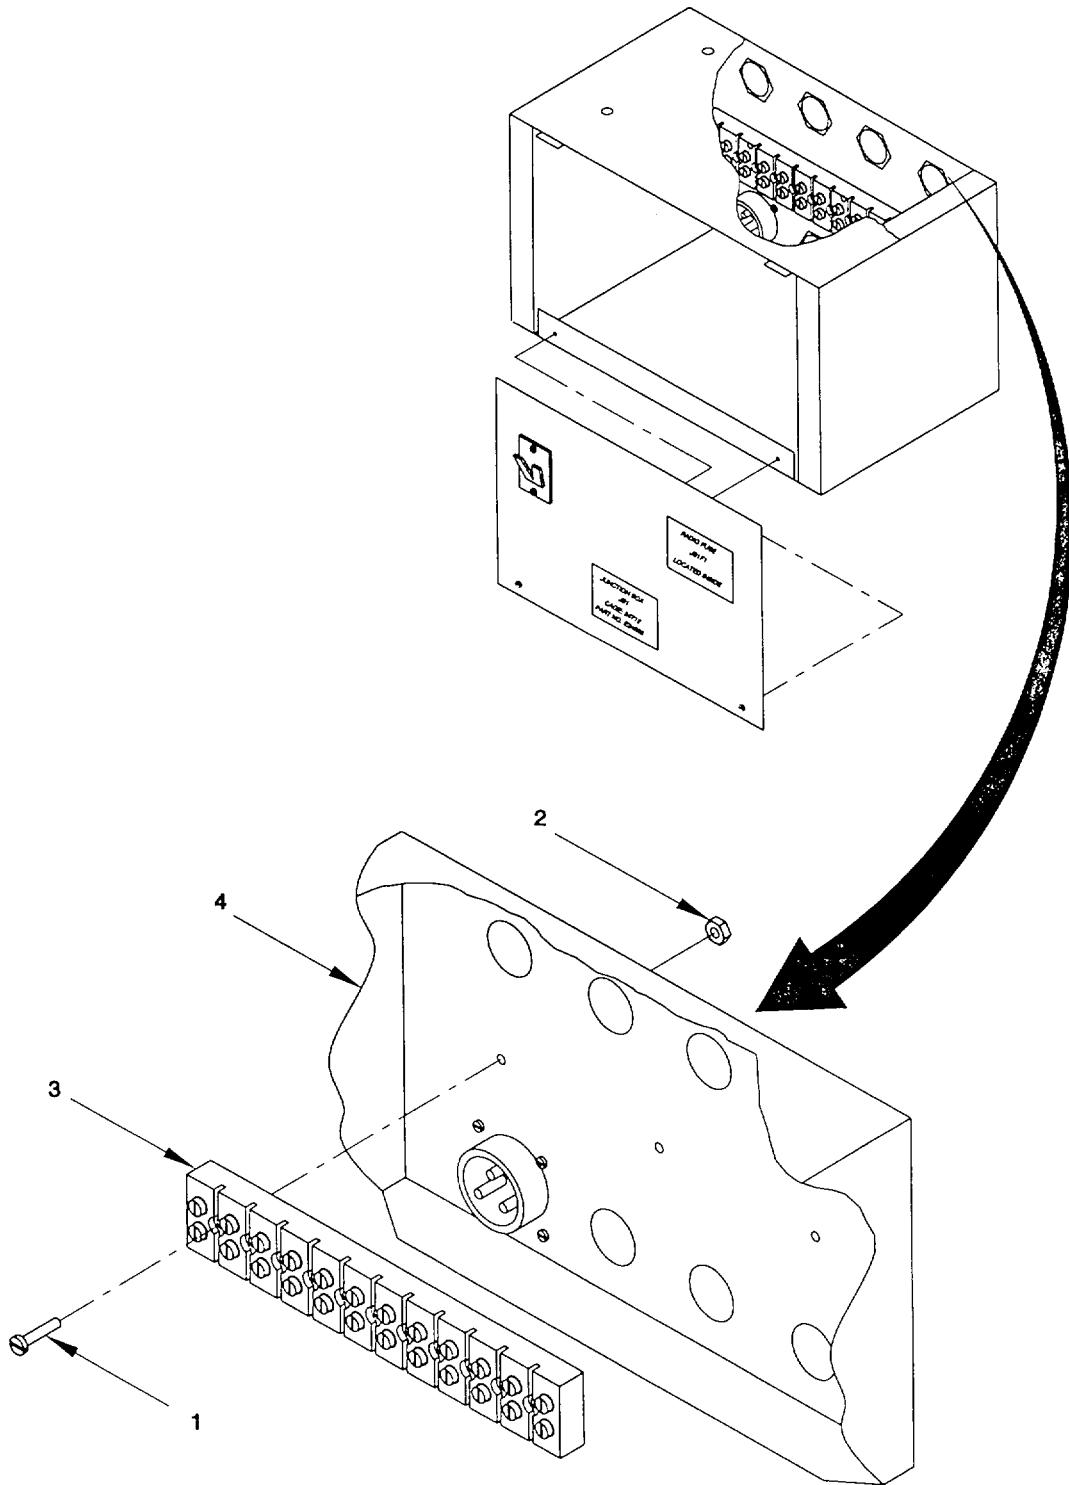

Figure 2-150. Terminal Board. Cab Junction Box "JB1". Remove/Install.
- a. *Remove.* (figure 2-150)
- (1) Loosen two front door screws securing front door. Open door.
- (2) Tag and disconnect electrical wiring to terminal board (3). Refer to Appendix G.
- (3) Remove three round head screws (1) and three insert nuts (2) securing terminal board (3) to rear of junction box (4). Remove terminal board (3).
- b. *Install.* (figure 2-150)
- (1) Apply antiseize compound to threads on round head screws (1).
- (2) Position terminal board (3) on junction box (4). Secure with three round head screws (1) and three insert nuts (2).
- (3) Reconnect electrical wiring, as tagged, to terminal board (3). Refer to Appendix G.
- (4) Close front door and tighten two screws to secure door.